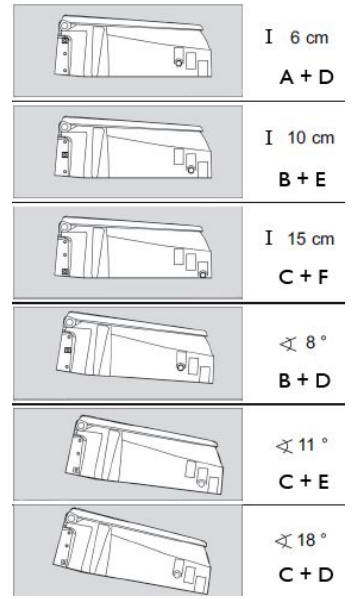
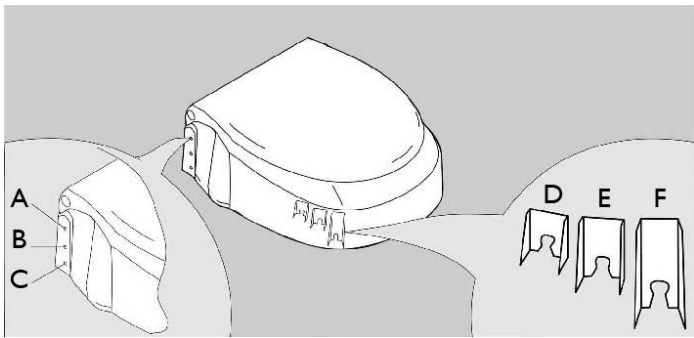

Fig. 4
Fig. 5
3. Choose the desired seat height and inclination from the table in Fig. 4. The letters in Fig. 4 correlate with the possible fixation positions in Fig. 5.